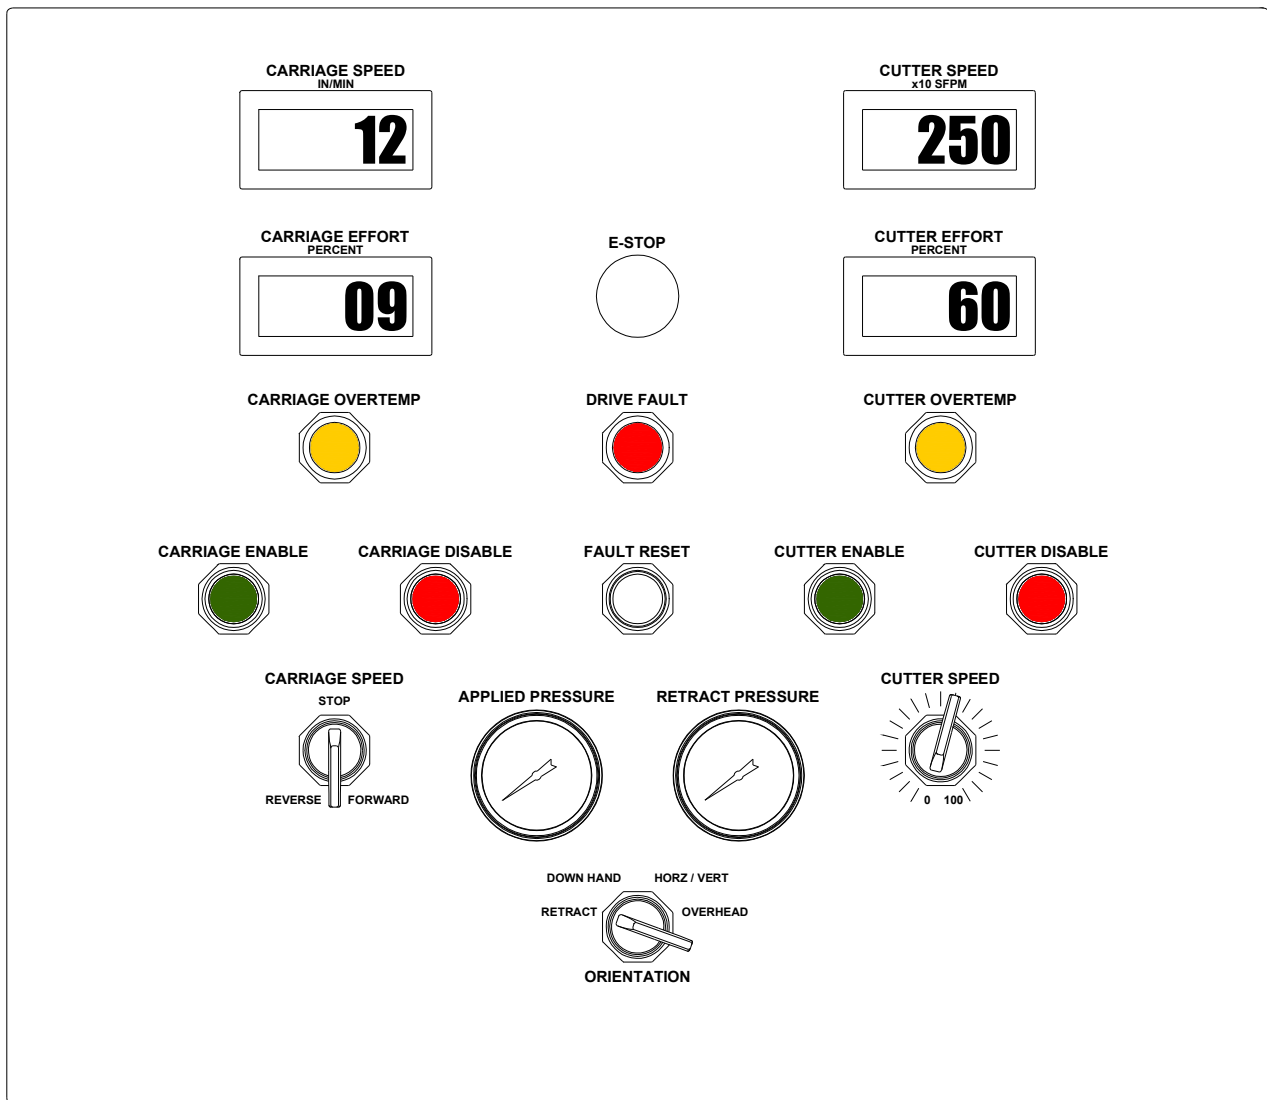

Figure 11: Control Console Interface
5. Ensure the CARRIAGE SPEED knob is turned to STOP, and the CUTTER SPEED knob is turned to 0 as shown in Figure 11.